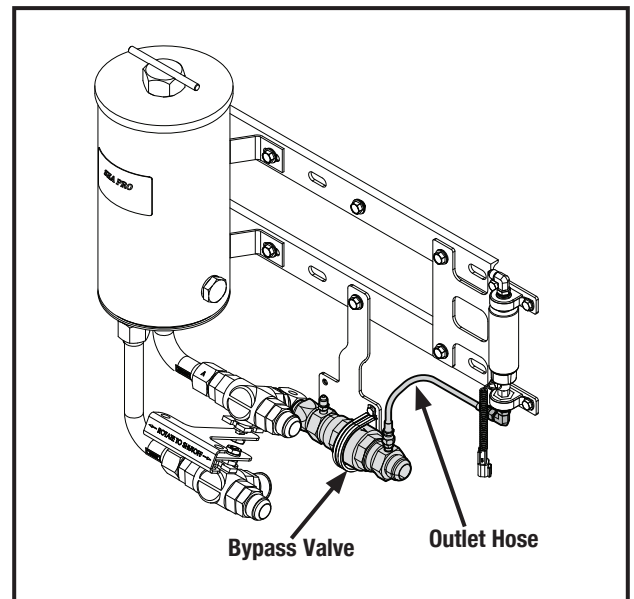

Figure 7 - Attaching the Outlet Hose
- Attach the Bypass Valve Bracket and strap as shown in Figure 7. Attach the Primer Pump Assembly outlet hose to the Bypass Valve at the end closest to the outlet manifold and attach the other end to the bottom of the Primer Pump as shown in Figure 7. Torque each fitting to 10-15 ft-lb (13.6-20.4 N•m).